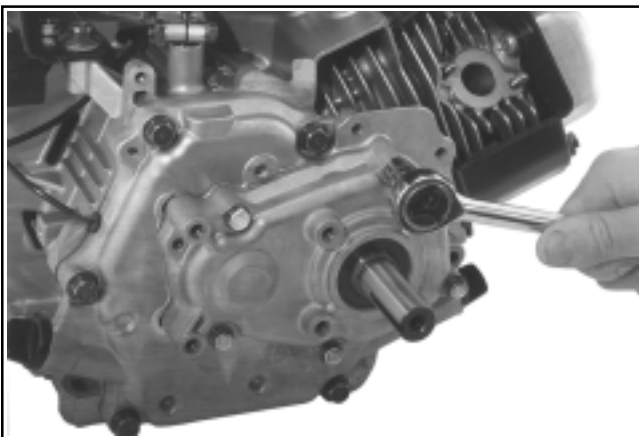

**Figure 9-52. Removing Mounting Screws and Stator.**
2. Remove the four hex. flange shoulder screws securing the stator to the crankcase. Remove the stator and pull the wires through the opening in the casting. See Figure 9-52